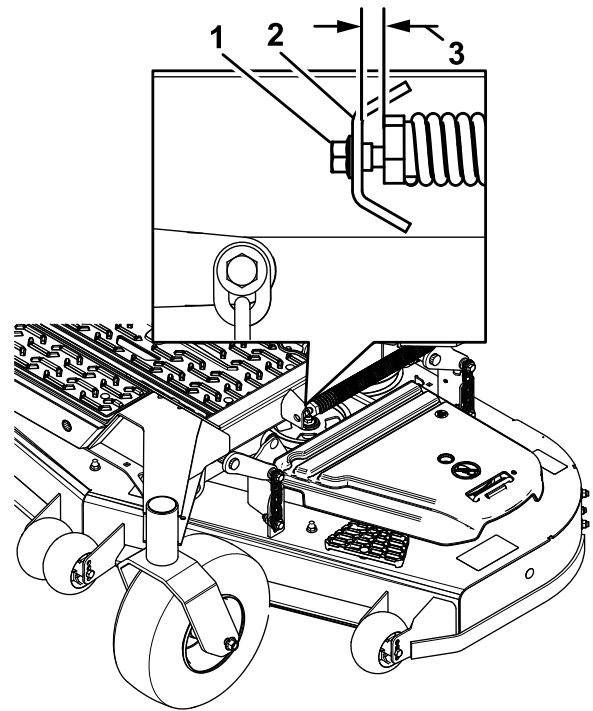

**Figure 83**
10. Slowly loosen the adjusting screw on the lift-assist spring until you can remove the screw (Figure 83).